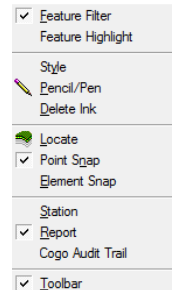

**Figure L14-7** MicroStation Window.
- Left **Click** on the line shown in *Figure L14-7*.